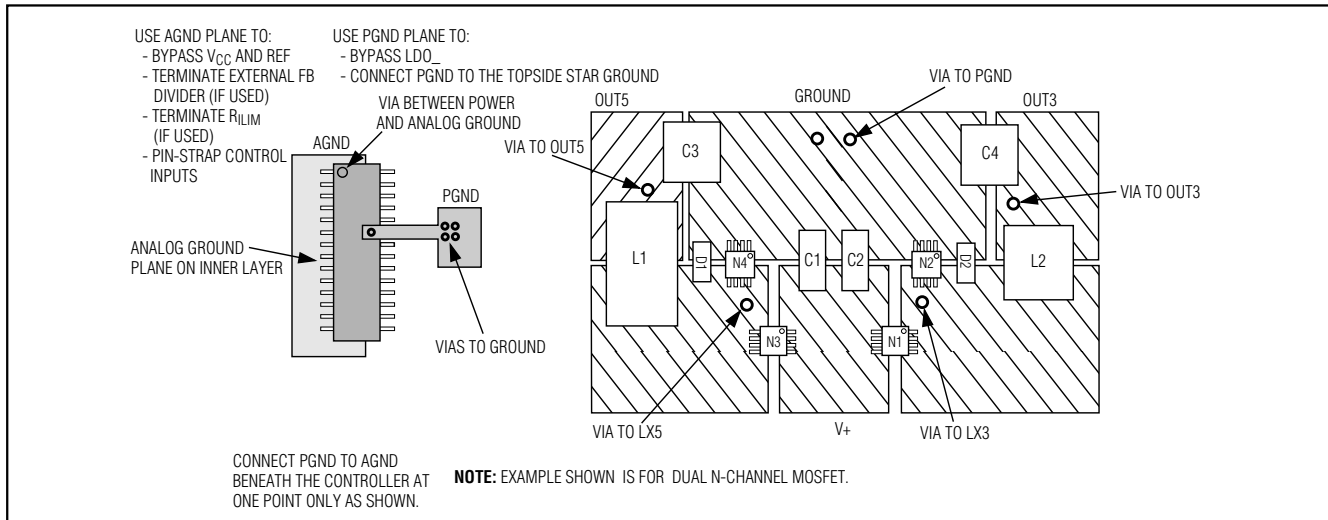

Figure 13. PC Board Layout Example
Careful PC board layout is critical to achieve minimal switching losses and clean, stable operation. This is especially true when multiple converters are on the same PC board where one circuit can affect the other. The switching power stages require particular attention (Figure 13). Refer to the MAX1999 EV kit data sheet for a specific layout example.
- 4) Make the DC-DC controller ground connections as follows: near the device, create a small analog ground plane. Connect the small analog ground plane to GND (Figure 13) and use the plane for the ground connection for the REF and V_{CC} bypass capacitors, FB dividers, and ILIM resistors (if any). Create another small ground island for PGND, and use the plane for the V+ bypass capacitor, placed very close to the device. Connect the AGND and PGND planes together at the GND pin of the device.